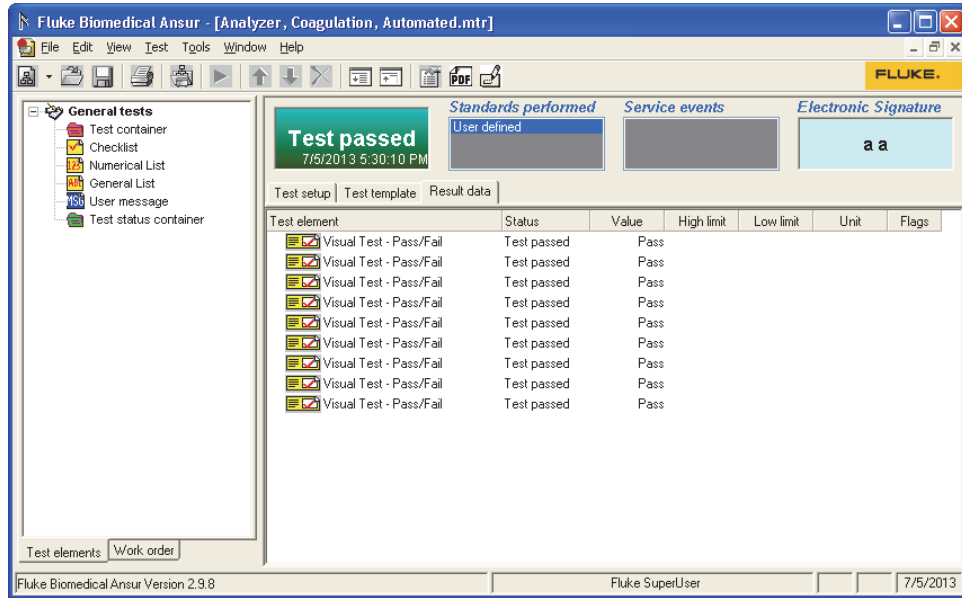

Figure 3-7. Ansur Test Record Window
- Click the **Next** icon (➡). Ansur creates a Test Record, closes the Test Summary window and opens the Test Record window shown in Figure 3-7.